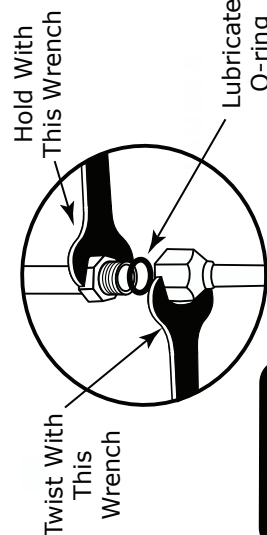

Figure 13a
3. On a workbench, install evaporator rear bracket and hardlines with properly lubricated O-rings (See Figure 13a, Page 15, and Figure 16, Page 18.)
1. Locate the #8 compressor A/C hose. Lubricate (2) #8 O-rings (See Figure 13a, Page 15) and connect the 135° fitting to the #8 discharge port on the compressor. Then route the 45° fitting to the #8 condenser hardline on the fender well (See Figure 13, Page 15). Tighten each fitting connection as shown in Figure 13a, Page 15.
2. Locate the #10 compressor A/C hose. Lubricate (2) #10 O-rings (See Figure 13a, Page 15) and connect the 90° fitting to the #10 suction port on the compressor, and then route the straight fitting to the #10 evaporator hardline coming through the firewall (See Figure 13, Page 15). Tighten each fitting connection as shown in Figure 13a, Page 15. **NOTE: Wrap the #10 fitting connections at the firewall with press tape (See Figure 13, Page 15).**
3. Locate the #6 evaporator/core hardline. Lubricate (2) #6 O-rings (See Figure 13a, Page 15) and connect the hardline to the #6 hardline on fender well from drier. Attach the other end of the hardline with lubricated O-ring to the #6 evaporator hardline coming through the firewall (See Figure 13, Page 15). Tighten each fitting connection as shown in Figure 13a, Page 15. Use a #2 Adel clamp to secure the #6 evaporator/core hardline to the inner fender well as shown in Figure 13, Page 15. Secure the Adel clamp to the inner fender using a #10 x 1/2" sheet metal screw.